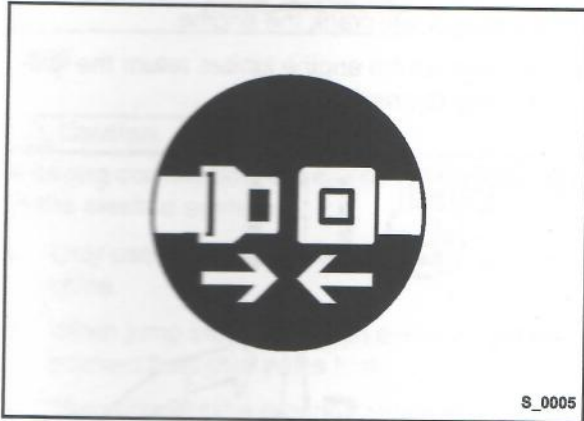

Fig. 24
- Fasten your seat belt (Fig. 24).